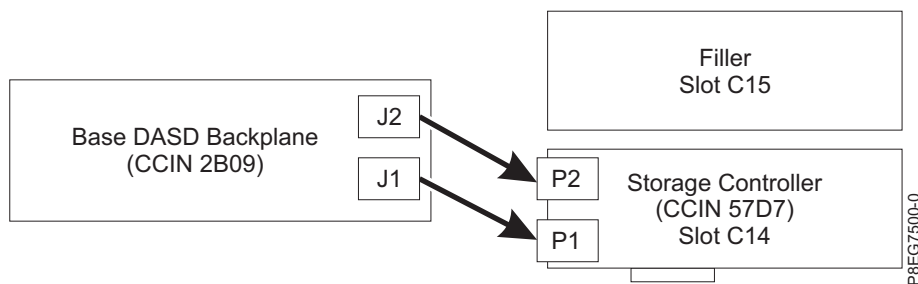

Figure 6. Reconnecting the SAS cable in a base storage configuration
- If you have one PCIe3 x8 SAS RAID internal adapter (CCIN 57D7) in slot P1-C14 (base storage feature), one SAS cable connects the lower disk drive backplane connector (J1) to the P1 connector on the adapter. The second SAS cable connects the upper disk drive backplane connector (J2) to the P2 connector on the same adapter. See Figure 6.